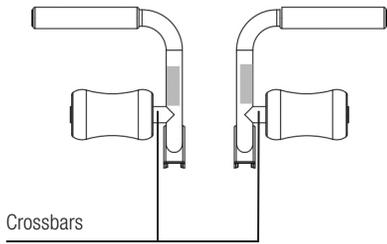
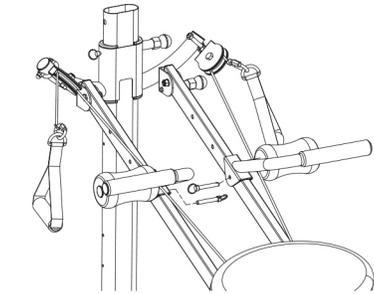

Fig. 1
Fig. 2
If the Stopper at the bottom of the Vertical Column has not already been installed, please do so now. Locate the Stopper which is packed in Miscellaneous Accessories (**See** Product Specifications on page 4 of this manual). Unscrew nut on the end of the Stopper and remove. Insert the Stopper into the hole located in the center of the Back Crossbar (See Fig. 1). Screw the nut back onto the Stopper and tighten with Allen Wrenches provided (See Fig. 2).
2. Then attach Foam Pads on the Crossbars as shown in Fig. 1. Let dry before beginning to exercise with the Wing Attachments.
3. Insert the 2 Short Hitch Pins through the holes on the Wing Attachment Brackets and the hole on the Rails, as shown in Fig. 2.
2. With the small end of the Ab Crunch Board closest to the Handle Grip securely attach the appropriate Handle with 4 Flat Washers, Spring Washers and Hex Bolts with Hex Wrench provided. See Fig. 1.